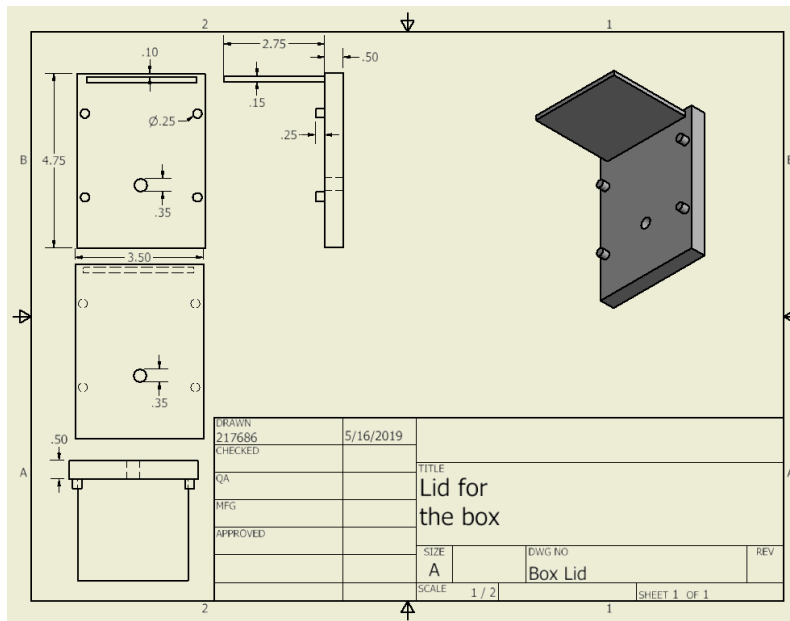

Figure 3-8
12. For the lid, follow the drawing shown in figure 3-8
4. Insert the outlet plug into the small hole in the back of the lid (Figure 3-8).